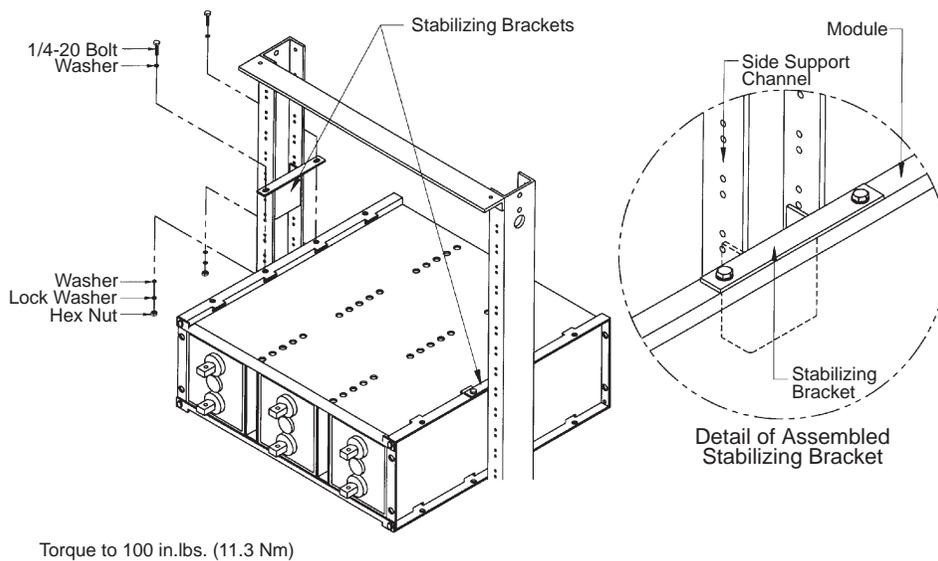

Figure 6-6: Stabilizing Bracket Placement
6. Insert the stabilizing bracket and bolt it to the top module. (See Figure 6-6.)